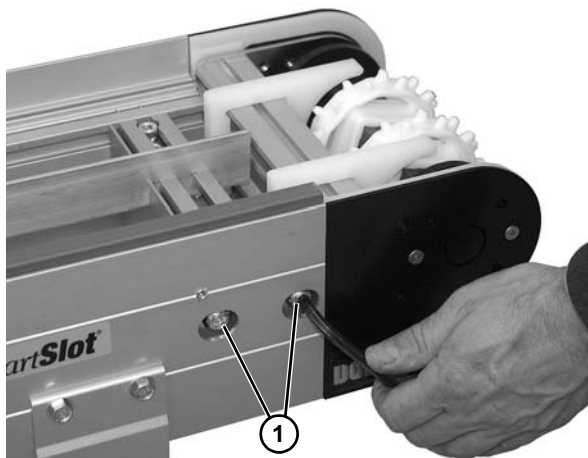

Figure 47
2. Remove the two socket head screws (Figure 47, item 1). Repeat on opposite side.